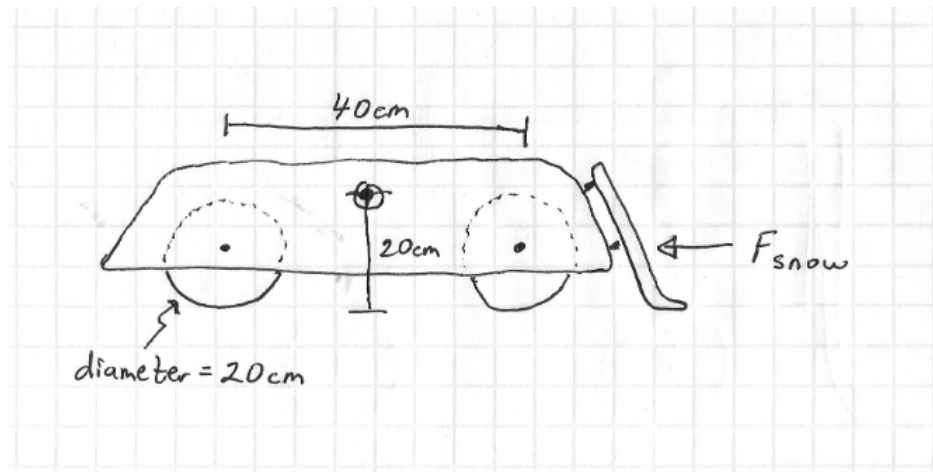

Figure 3: Snow plow design.
5. Your professor's daughter is designing a robotic snow plow to make her winter chores easier (maybe for next year...). The driveway at her house is quite steep, up to a 12% grade. Her current design is shown in Figure 3. It is *all-wheel drive*, meaning that each wheel will generate as much torque as it can without slipping, with the following dimensions (also shown in the figure):